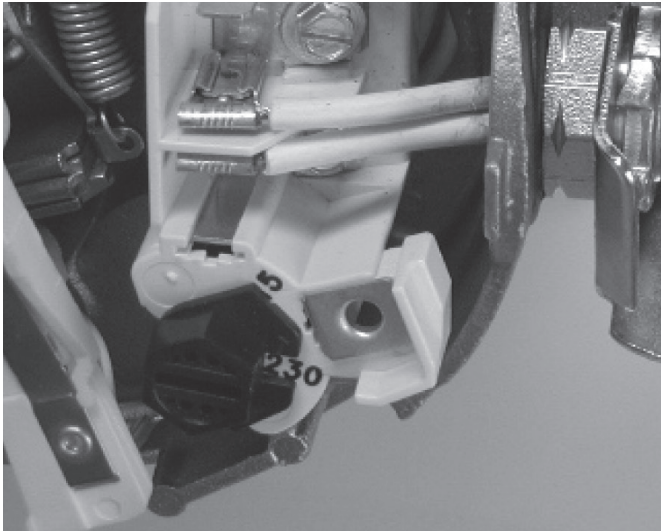

Figure 3: 230 Volt Setting
7. Connect current carrying conductors to terminals L1 and L2 under motor canopy. When replacing motor, check wiring diagram on motor nameplate against Figure 3. If the motor wiring diagram does not match either diagram in Figure 3, follow the diagram on the motor.